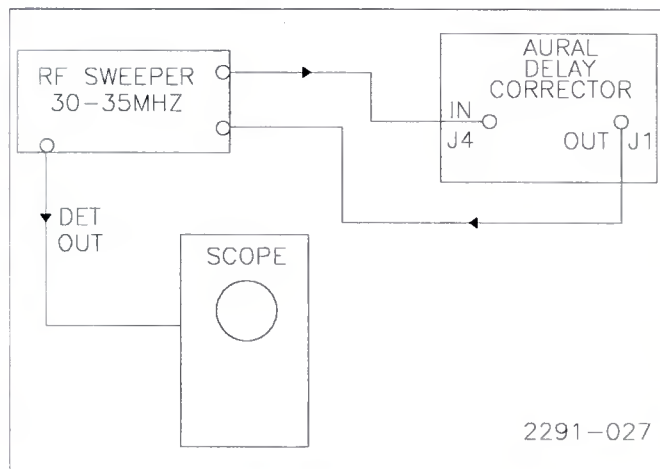
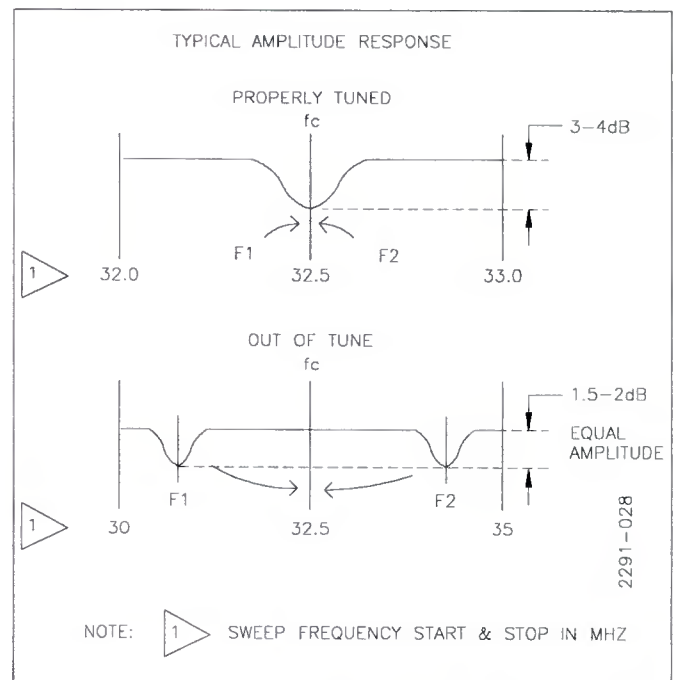

Figure 5-16. Typical Sweep Setup
Figure 5-18. Aural Delay Corrector Amplitude Response
- A simple RF sweep test of the aural delay corrector will suffice in re-establishing performance. The objective is to locate the amplitude dips in the sweep response and retune them back on the aural IF frequency (32.50 MHz). Tuning of F1 and F2 is done by adjusting the trimmer capacitors. Refer to Figure 5-16 for typical test equipment setup. Attempt to get the sweep response curves shown in Figure 5-18 with the same amplitude levels as shown.
This is a frequency response test. Measuring the group delay curve is not necessary at this time for a simple alignment of the resonators. From previous measurements on this circuit, each 1 dB of amplitude dip introduces approximately 100 ns of delay with the same general curve shape. The amplitude and frequency position of the response dip can then be used as a guide for proper operation of the delay corrector. Refer to Figure 5-18 for typical response curves showing this relationship.
- e. When F1 and F2 amplitude dips are both positioned on the aural IF carrier, as shown in Figure 5-18, then the delay corrector is ready again for stereo separation adjustments as described above.